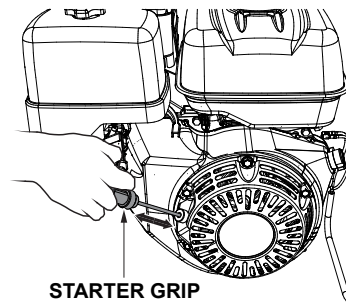

Figure 21. Starter Grip
5. If your generator is a recoil start only (no battery), grasp the starter grip (Figure 21) and slowly pull it out. The resistance becomes the hardest at a certain position, corresponding to the compression point. Pull the starter grip briskly and smoothly for starting.